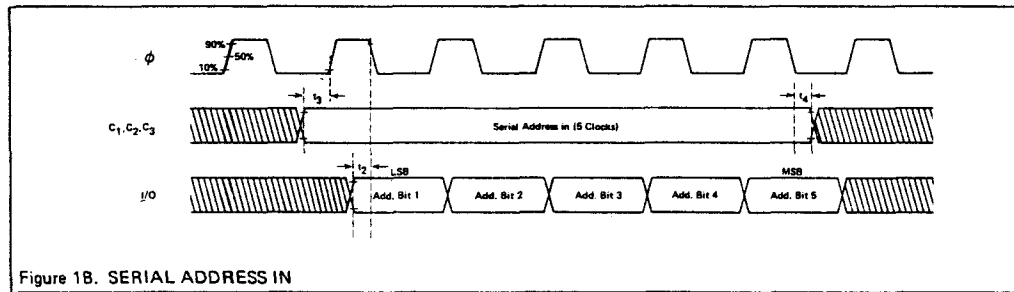

Figure 1B. SERIAL ADDRESS IN
3. Chip is addressed for five clocks to enter five bits of address. The 5-bit binary address code (00000 to 10100) shifts the MSB into the chip first (see Figure 1B).